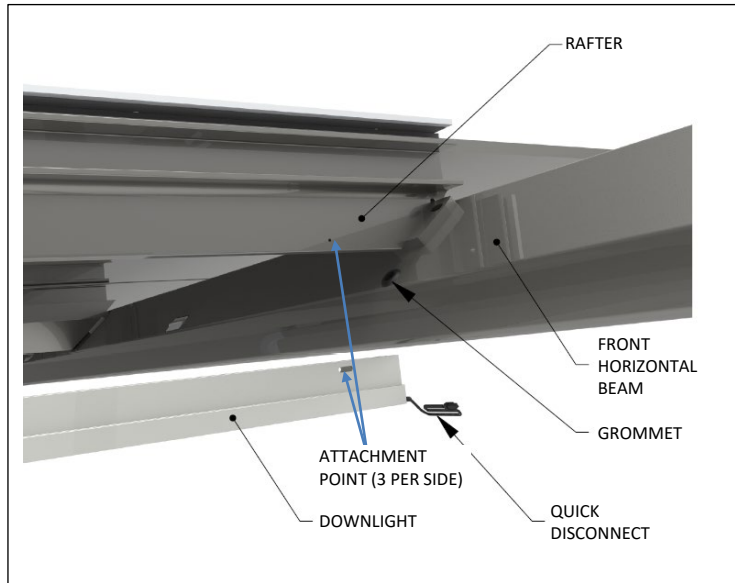

Fig. F9 – install rafter light
5. Install remaining rafter downlights: make connection to quick disconnects. Push connection through grommet on front horizontal beam. Attach downlight to rafter, see Fig. F9.